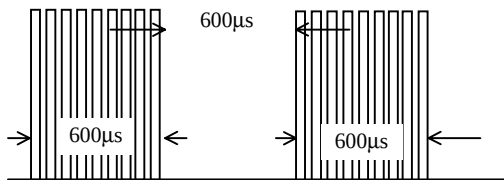

Fig 1. Burst Wave
(1) Measuring place Indoor without extreme reflection of light.
(2) Ambient light source... Detecting surface illumination shall be 200 ± 50 Lux under ordinary hite fluorescence lamp of no high frequency lighting.
(3) Standard transmitter ... Burst wave indicated in Fig 1. of standard transmitter